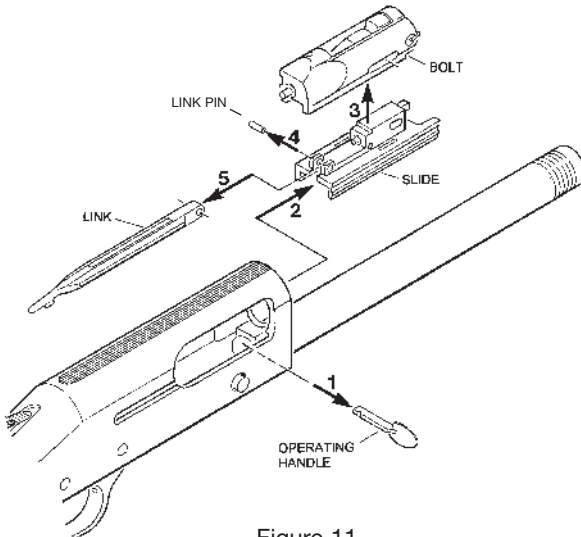

Figure 11
1. Pull the operating handle straight out of the bolt (Figure 11).
Clean all components of the action including the bolt, slide, and link (Figure 11) to remove accumulated residue. An evaporating solvent should be used. Action parts will remain cleaner, longer, if lubrication is used sparingly.